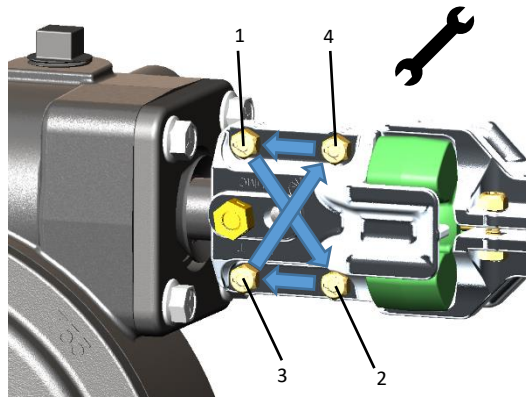

Figure 10: Shows the alternating pattern that the installer should take when tightening down the 1/4" lock nuts.
9. Once 3/8" lock nut is tightened, proceed to the four 1/4" lock nuts on the same coupler. Tighten the four 1/4" lock nuts in an **ALTERNATING FASHION**, as shown in Figure 10, one full turn at a time to avoid damaging the coupler. Tighten to 7 ft-lbs. of torque. **DO NOT OVER-TIGHTEN. OVER-TIGHTENING CAN RESULT IN DAMAGE TO THE LOAD ARMS.**